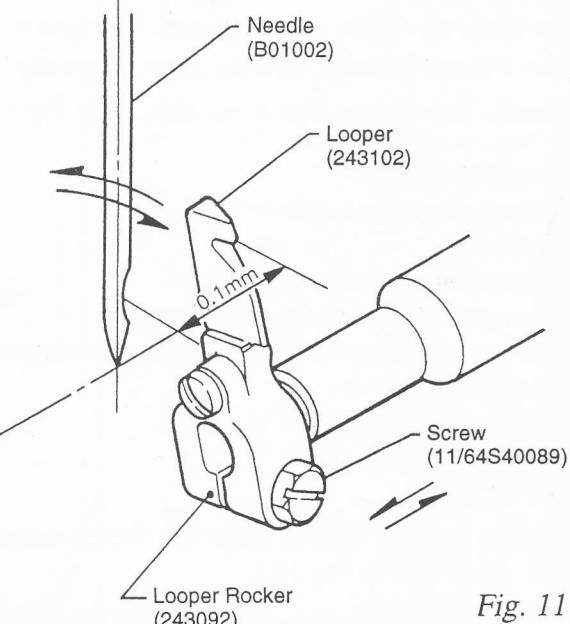

Fig. 11
2. Position of Needle and Looper (Fig.11)
Looper must pass the concave part of Needle with clearance of 0.1 mm as shown in Fig.11. Adjustment of the clearance can be done after loosening the screw of Looper Rocker.